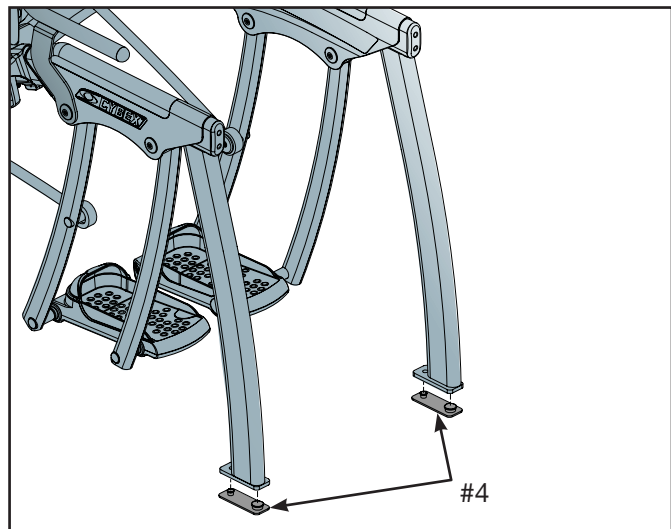

Figure 8
- A.** Have one person lift the unit while a second person places a foot cover (#4) under each of the two back feet. See Figure 8.